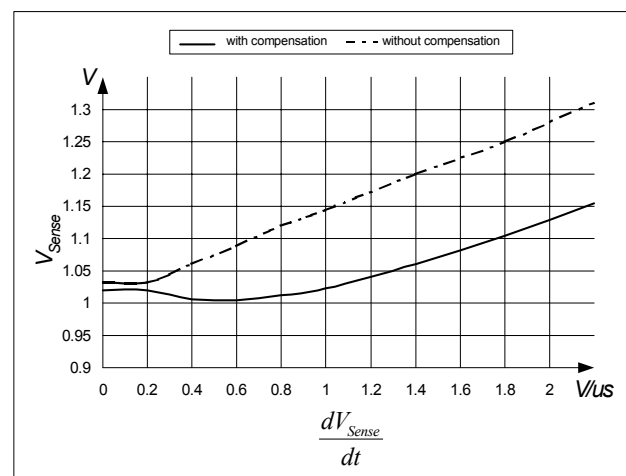

Figure 19 Overcurrent Shutdown
E.g. $I_{peak} = 0.5A$ with $R_{Sense} = 2$. Without propagation delay compensation the current sense threshold is set to a static voltage level $V_{csth} = 1V$. A current ramp of $dI/dt = 0.4A/\mu s$, that means $dV_{Sense}/dt = 0.8V/\mu s$, and a propagation delay time of i.e. $t_{Propagation Delay} = 180ns$ leads then to a I_{peak} overshoot of 14.4%. By means of propagation delay compensation the overshoot is only about 2% (see Figure 19).